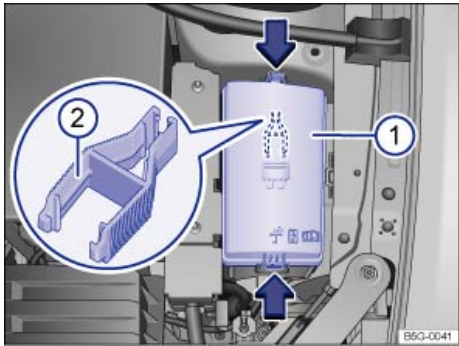

Fig. 185 In the engine compartment: Fuse box cover 1 with tweezers 2.
- Move the release tabs in the direction of the arrows ⇒ fig. 185 to unlock the fuse box cover (1).